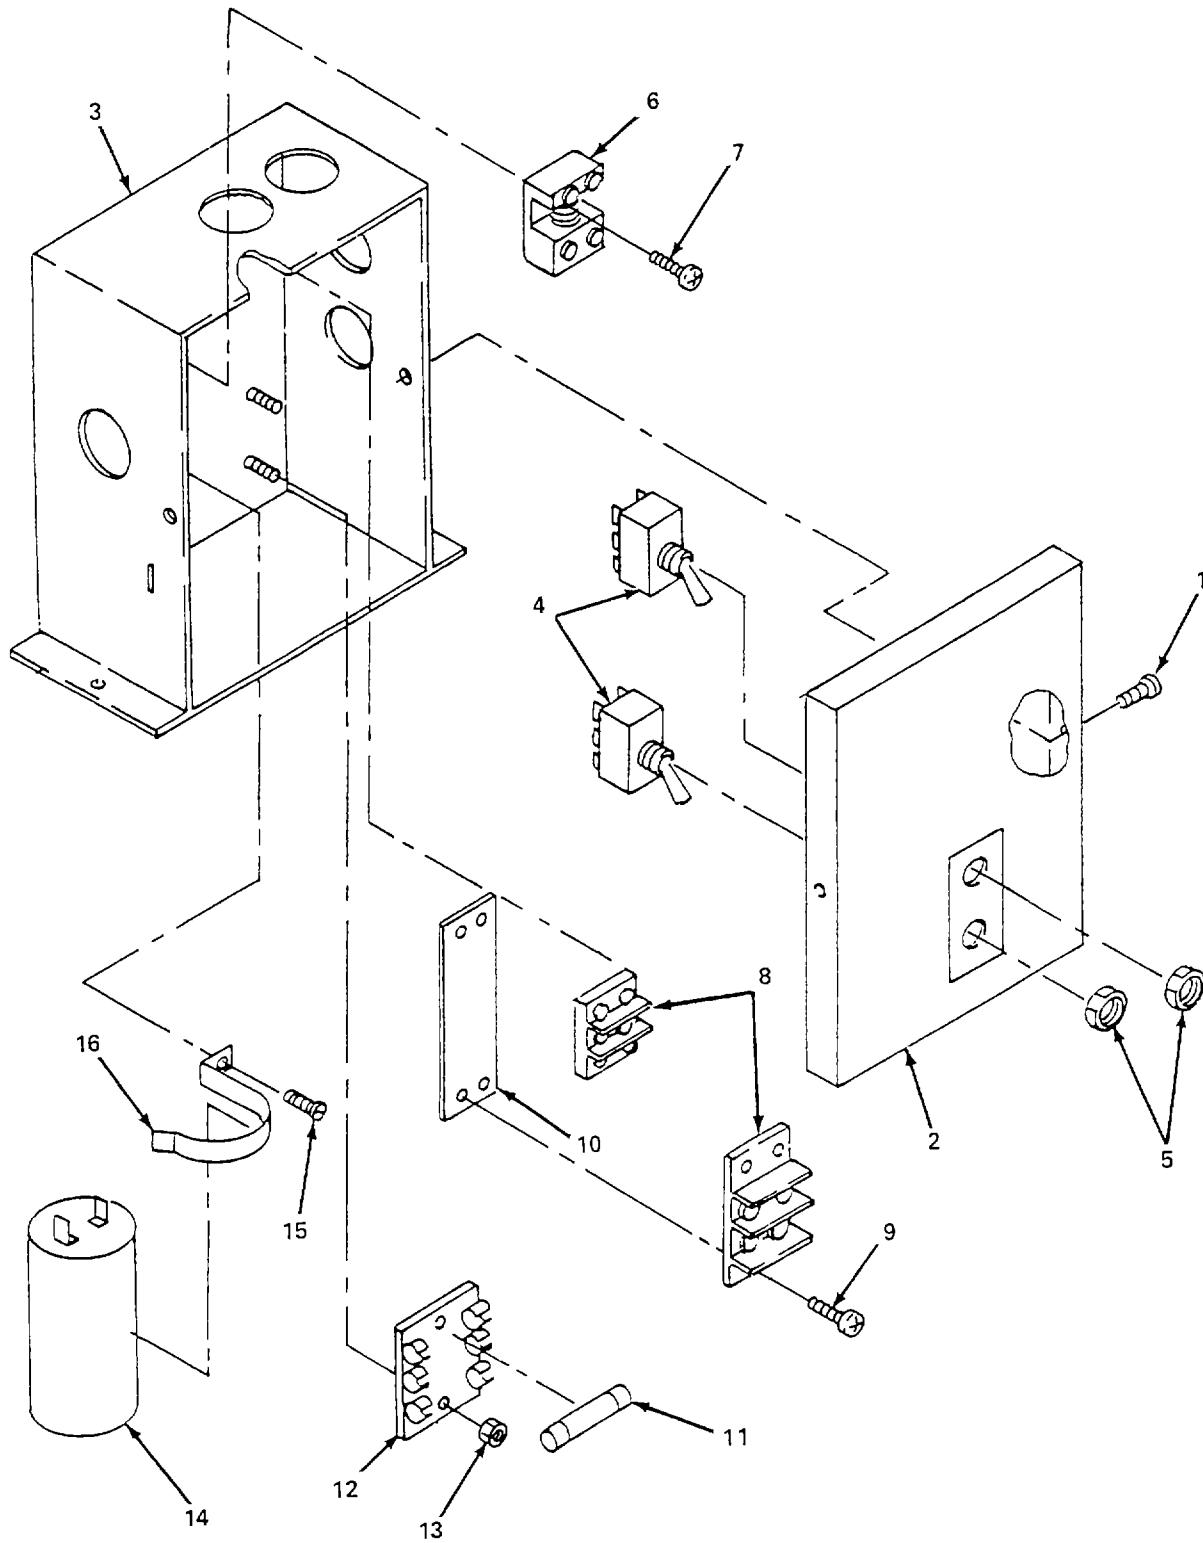

Figure 6-28. Control Box, Repair.
- (2) *Replace toggle switch.* (figure 6-28)
- (a) Remove two screws (1) and pull cover (2) away from box (3).
- (b) Tag and disconnect leads going to switch (4).
- (c) Remove nut (5) and remove switch (4).
- (d) Install new switch (4), ensure switch is properly orientated, and secure with nut (5).
- (e) Connect and untag leads to switch (4).
- (f) Install cover (2) on control box (3) and secure with two screws (1).
- (3) *Replace relay.* (figure 6-28)
- (a) Remove two screws (1) securing cover (2) and pull cover (2) away from box (3).
- (b) Tag and disconnect leads going to relay (6).
- (c) Remove screws (7) and remove relay (6).
- (d) Install new relay (6) and secure with screws (7).
- (e) Connect and untag leads to relay (6).
- (4) *Replace terminal board.* (figure 6-28)
- (b) Tag and disconnect leads from terminal boards (8).
- (c) Remove screws (9) and remove terminal boards (8) and insulator (10).
- (d) Inspect insulator (10) and replace if cracked or otherwise damaged.
- (e) Install insulator (10) and new terminal boards (8) and secure with screws (9).
- (f) Connect and untag leads to terminal boards (8).
- (g) Install cover (2) on control box (3) and secure with two screws (1).
- (5) *Replace fuse block.* (figure 6-28)
- (b) Tag and remove three fuses (11).
- (c) Tag and disconnect leads from fuse block (12).
- (d) Remove two nuts (13) and remove fuse block (12).
- (e) Install new fuse block (12) and secure with two nuts (13).
- (f) Connect and untag leads to fuse block (12).
- (g) Install three fuses (11) as tagged.
- (h) Install cover (2) on control box (3) and secure with two screws (1).
- (6) *Replace capacitor.* (figure 6-28)
- (b) Tag and disconnect leads from capacitor (14).